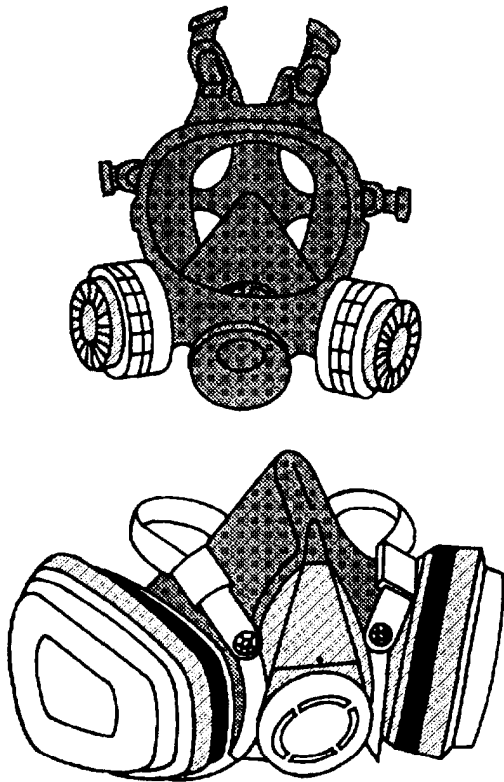

Figure 1-29.—Full-facepiece and half-facepiece cartridge respirators with pre-filters.
1. Air-purifying respirators: Air-purifying respirators have filters or cartridges to trap or absorb air contaminants. For spray painting, personnel must be protected against the organic vapors of the paint vehicle, or solvent, and against the pigment mist. This requires an organic vapor cartridge with a mist pre-filter over the cartridge. The cartridge and the pre-filter attach to either a full-facepiece or half-facepiece respirator mask. See figure 1-29. For sanding operations, a cartridge rated as protection against dust is substituted on the mask. See figure 1-30.